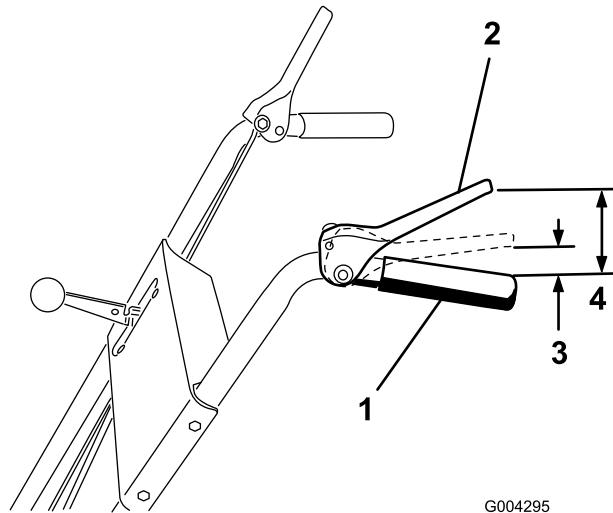

Figure 7
- Adjust the 2 flange nuts up or down on the traction rod until the distance between the top of the handgrip and the bottom of the traction control lever is approximately 4-1/2 inches (11.4 cm) as shown in Figure 7.
Note: The adjustment is correct when the wheels stop rolling backward and the distance between the top of the handgrip and the bottom of the traction control lever is 1 to 2 inches (3 to 5 cm) as shown in Figure 7.